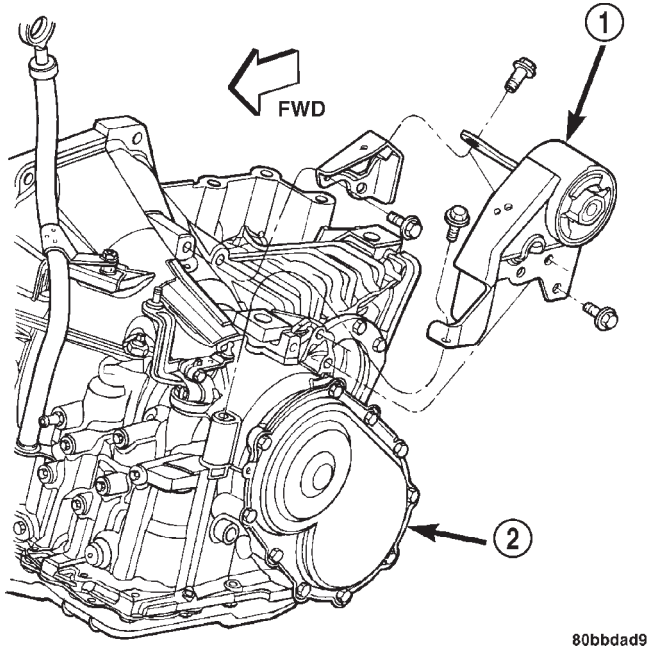
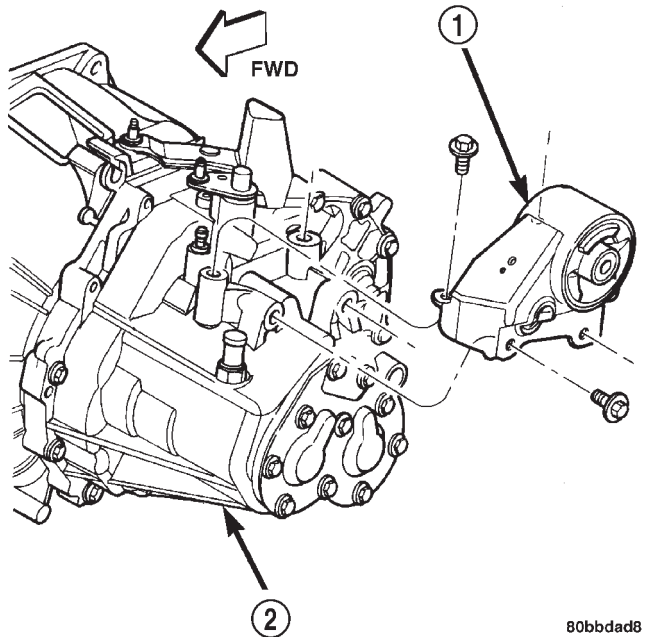

Fig. 16 Left Mount (Automatic Transaxle)
Fig. 17 Left Mount (Manual Transaxle)
- (11) Remove mount attaching bolts (Fig. 16) or (Fig. 17).
- (12) Remove mount.
(1) Install mount and attaching bolts (Fig. 16) or (Fig. 17). Tighten bolts to 68 N·m (50 ft. lbs.).